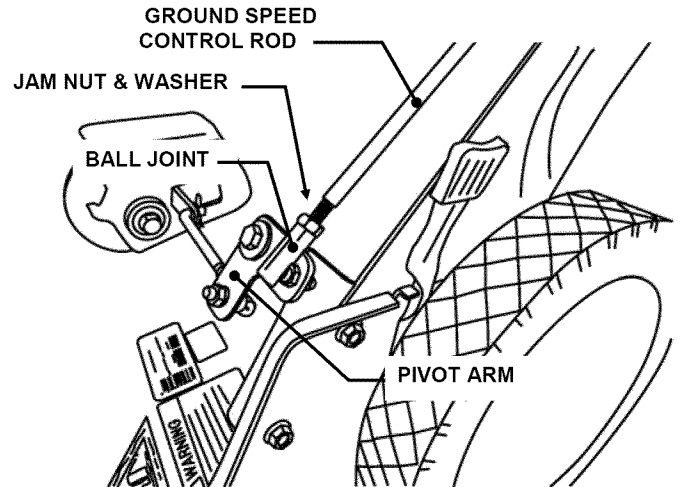

FIGURE 11
4. Install threaded end of Ground speed control rod, fitted with one 1/4-28 jam nut and one 1/4" internal tooth washer, into ball joint on end of speed control pivot arm. See Figure 11.